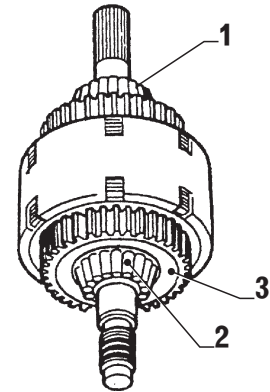

FIG. 8-1a
- Remove the tapered roller bearing inner races (item 1 and 2, Fig. 8-1a) and the gear (item 3, Fig. 8-1a) using the tools described in section 7.2.